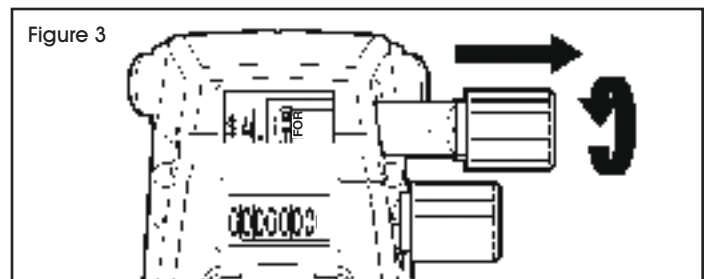

Figure 3
2. Turn the knob until the desired character appears black on a white background between the indicators. To print a blank, select the blank space for that band. (See Figure 3)